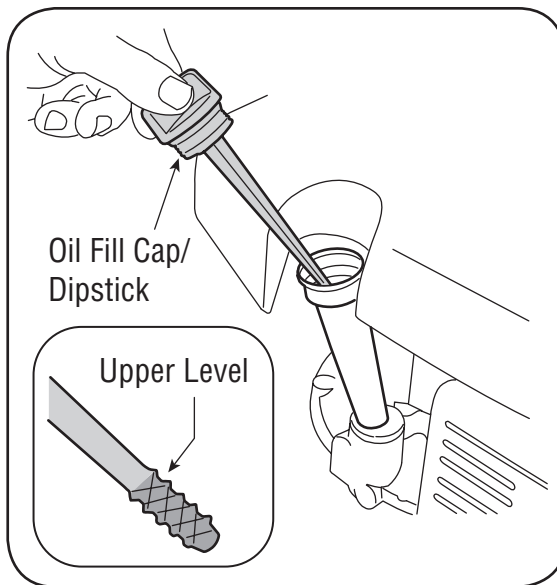

Figure 9-2: Checking the oil level.
1. Remove the oil filler cap and wipe the dipstick clean. See Figure 9-2.
3. If the level is low, slowly add oil to the upper limit on the dipstick. See Figure 9-2 inset.